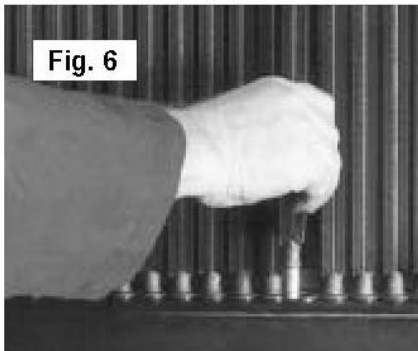

Fig. 6
**STEP 5.** With a minimum of angle, swing tube out, just far enough to allow it to be pulled down and out of its top seal, as shown in **Fig. 6**.